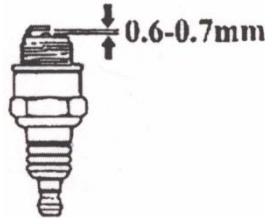

Fig.17
3. Measure the spark plug clearance with a feeler. The clearance should be 0.6~0.7mm (Fig. 17). If adjustment is necessary, bend the side electrode carefully.